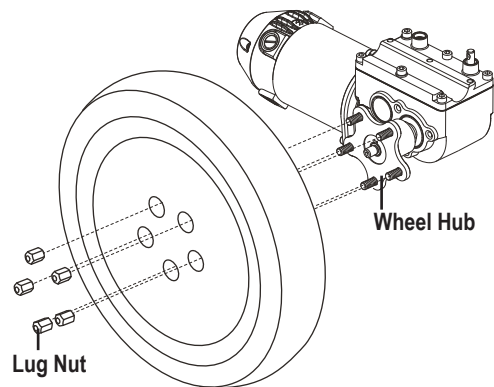

Figure 16. Drive Wheel
4. Remove the five (5) lug nuts from the wheel hub. **See figure 16..**